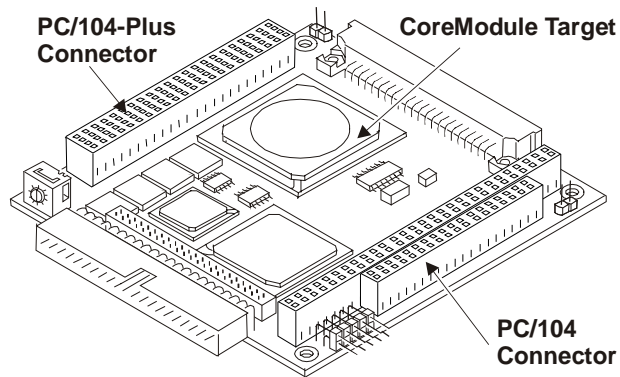

Figure 2-1. CoreModule Target System Example
<ul style="list-style-type: none"> • If the target system has already been setup on the workbench for installation of the MiniModule 1394 board, skip this section and go to Step 9. • Refer also to the target system QuickStart Guide for the install instructions referenced in the following steps. See Figures 2-1 and 2-2 for examples of CoreModule and Little Board Target Systems.
12) Position the MiniModule 1394 over the target system	<ul style="list-style-type: none"> The MiniModule 1394 must be positioned over the PC/104 and PC/104-Plus connectors on the target system. See Figures 2-1 to 2-4. <p>Typically the MiniModule 1394 board is installed on the top side of the target system, but in some cases, it may be installed underneath the target system.</p>